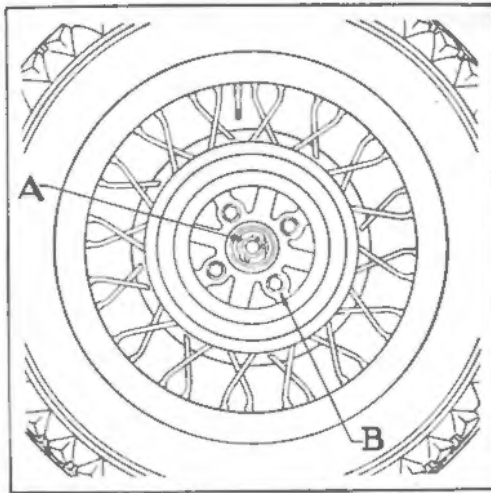

Figure 12
After jacking up the front axle and removing the hub cap, withdraw cotter key holding nut (A), Figure 12. Turn nut (A) to the right until a slight drag
All wheels are demountable at the hub by prying off the outside hub cap and removing the cap screws (B), Figure 12, in the wheel mounting plate. When replacing the cap screws, the final tightening locks them to prevent loosening in operation. Be sure the cap screws are drawn down tight.